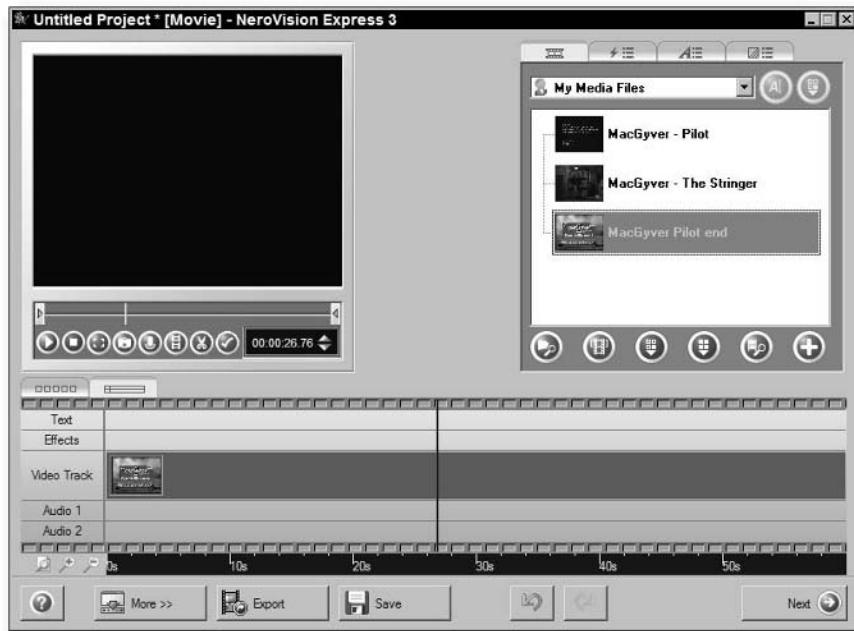

FIGURE 3-22: Ahead Software NeroVision Express 3
- **Ahead Software NeroVision Express 3**— As we've come to expect from Ahead Software, NeroVision Express 3 was a solid, reliable program that on installation recognized and was compatible with the dual-layer Sony DVD burner we used. We found the user interface (Figure 3-22) a little clunky and dumbed down as compared to Pinnacle Studio, but if you can work past that, this might be the one to choose. You can find the software at www.nero.com/us/NeroVision_Express_3.html.